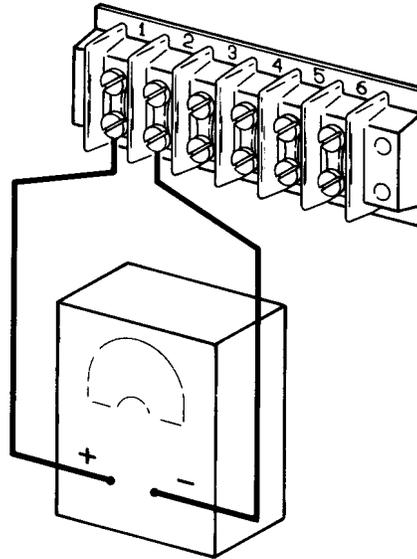

Fig. 63—Controller Patch Panel Terminal Block
- (a) Set dc voltmeter range scale to a setting for measuring +5.50 V and connect meter leads across terminals 1 (+) and 2 (-) on TBP terminal board on center logic rack patch panel (Fig. 63); observe that meter polarity is correct.